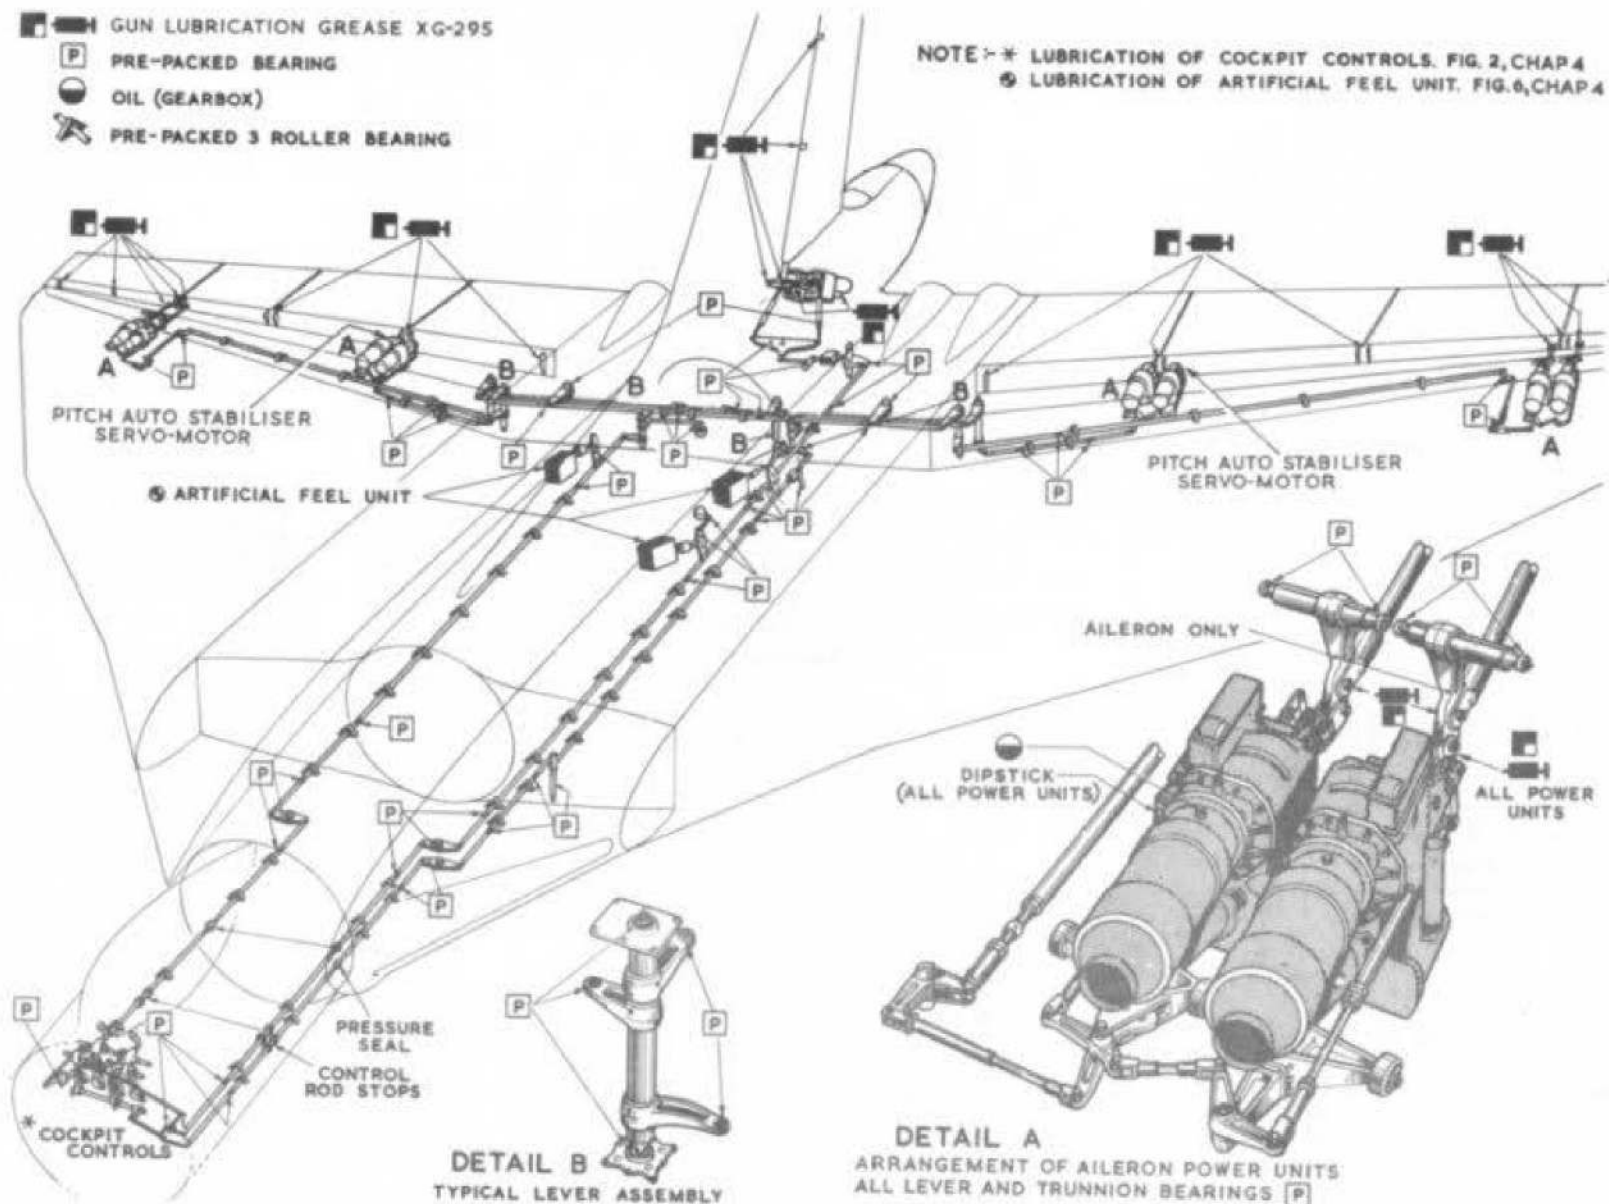
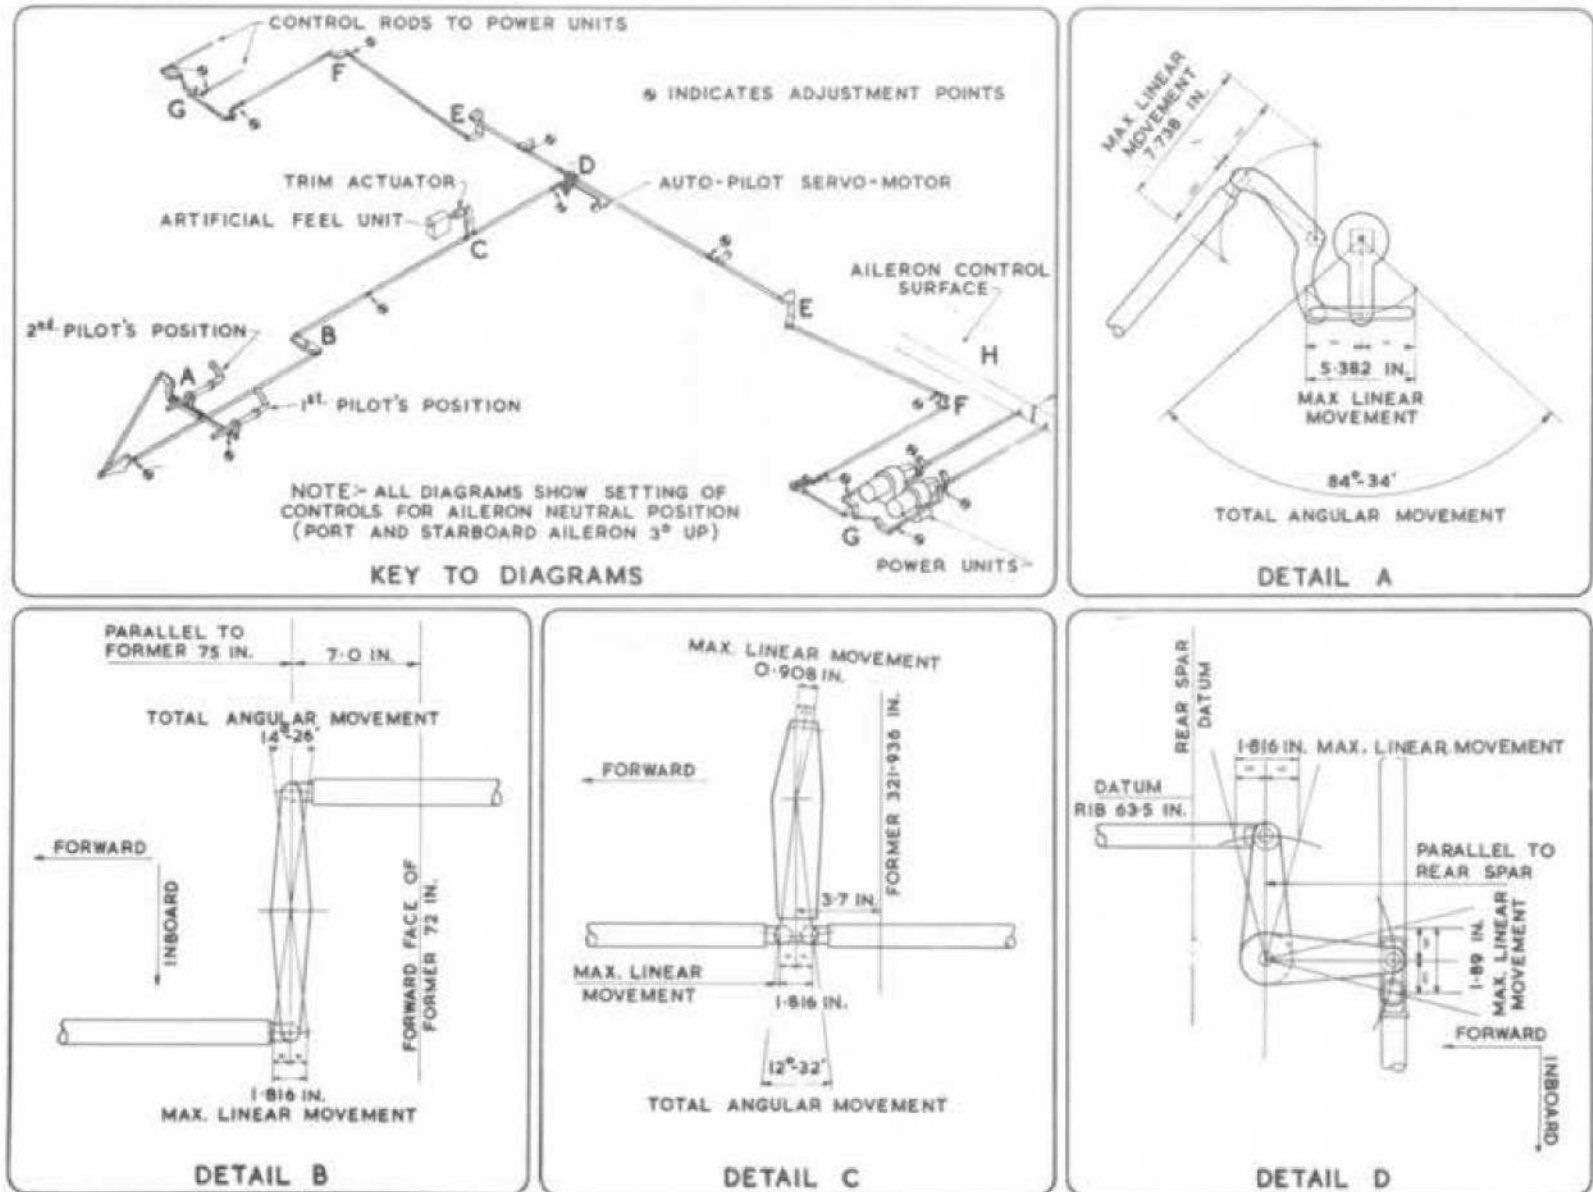

Fig. 1. Lubrication — main flying controls
Fig.2. Aileron control rigging (I)
in fig.1 and 2 of this chapter. Although the modification has altered the direction of movement of that section of the control run, the control circuit and control surface travels remain the same as those on Mk.1 aircraft. Reference should be made to fig.2 and fig.3 of this chapter for the rigging of the circuit.
3. The rigging of the aileron controls is given in the Key to fig.2 and 3 of this chapter. Information on the rigging of the rudder controls is given in para.4. Reference should be made to Chapter 4 of this section for all other servicing information. The neutral setting gauges
NOTE - * LUBRICATION OF COCKPIT CONTROLS. FIG. 2, CHAP 4
KEY TO FIG.2 AND 3 AILERON CONTROLS RIGGING